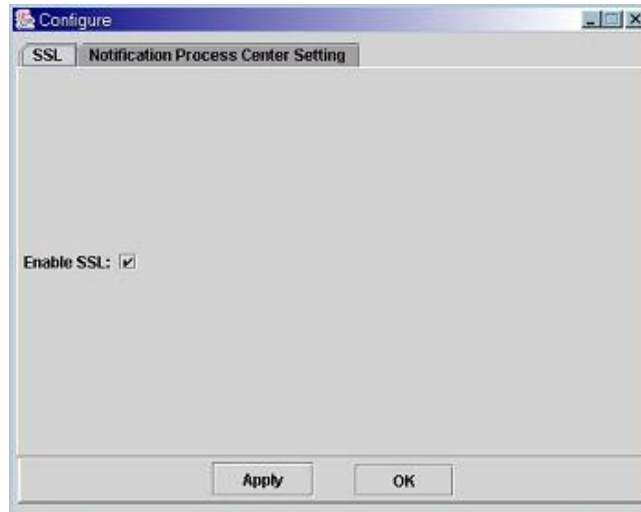

Figure 13-2: The NPC Initial Screen
**Step 4.** The configuration utility starts as a Java Applet. (See *Figure 13-2*)
SSL stands for “Secure Sockets Layer Handshake Protocol.” As shown in *Figure 13-2* above, the initial screen defaults to the SSL option. Select the check box if you want to enable SSL connection for the management session with the array.